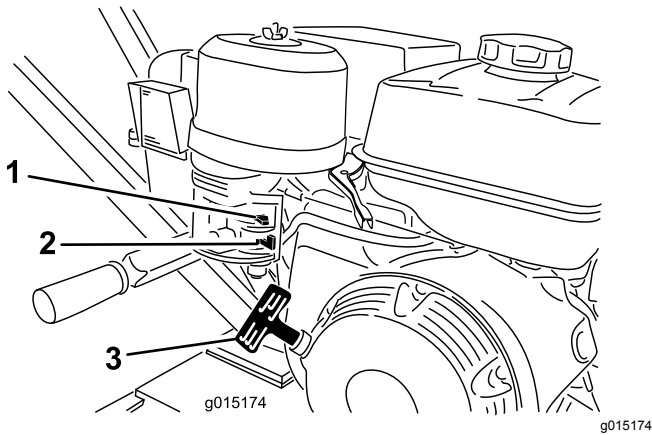

Figure 8
1. Move the fuel valve to the OPEN position, all the way to the right (Figure 8).
2. Move the choke lever to the ON position (Figure 8).
5. Pull the recoil-start handle lightly until you feel resistance, then pull the handle briskly (Figure 8). Return the recoil-start handle gently.